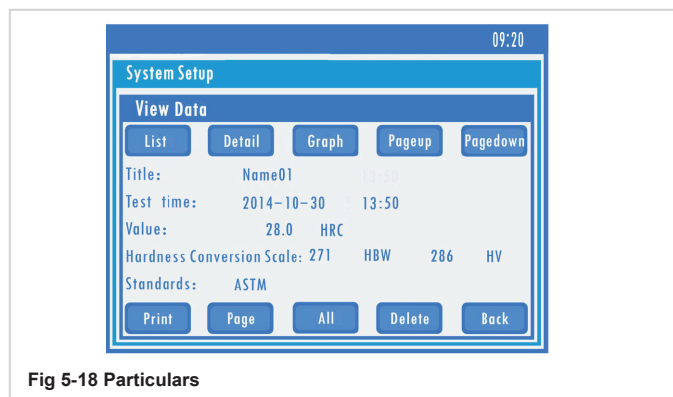

Fig 5-18 Particulars
**2) Details:** To show the detail information of each test result, like test time, test scale, hardness conversion. Fig5-18.